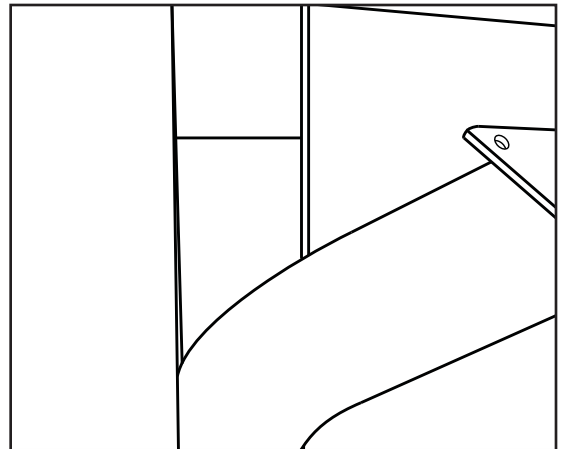

Figure 5
**3-2** Bend the box center flap inward. Carefully lift the console/upper mast weldment out of the box and place to the side (see Figure 5).